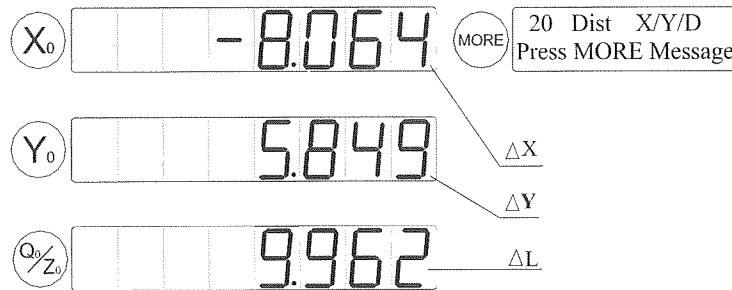

Figure 1-18
- 1) The first page of information is displayed as in figure 1-18, and the number 20 displayed in the LCD indicates that the feature is a permanent feature.